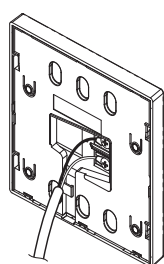

Fig. 1
5. Connect the cable to the remote controller screw terminals (Fig. 1).